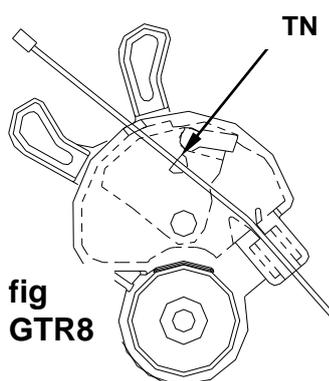

fig GTR8
**Fig. GTR8** shows the route the wire should take through the control.